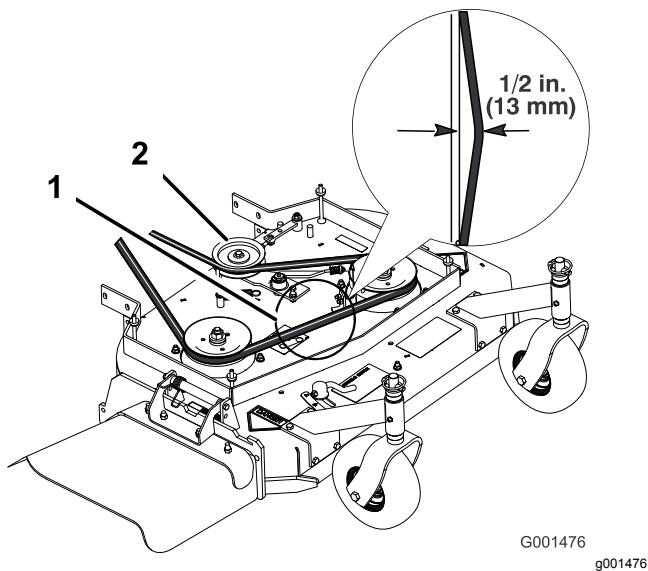
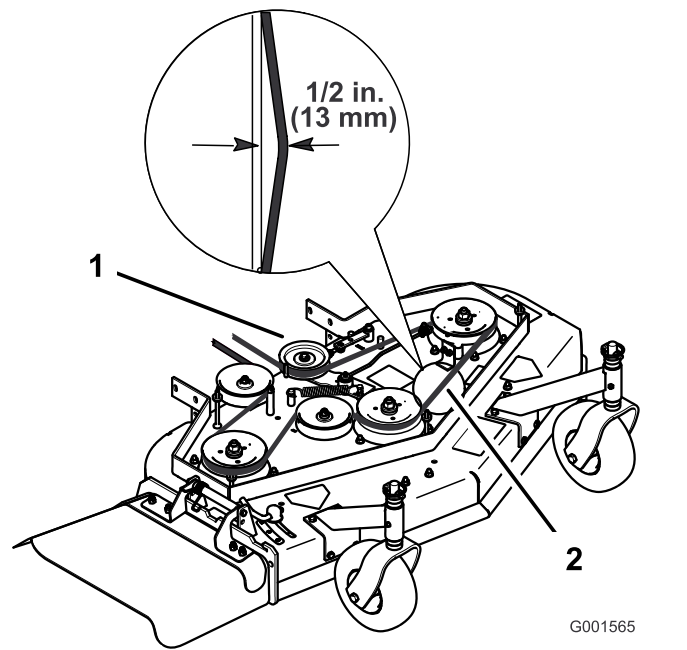

Figure 42
Figure 43
Note: The proper mower belt tension is 44 to 67 N·m (10 to 15 ft-lb) with the belt deflected 13 mm (1/2 inch) halfway between the pulleys (Figure 42 or Figure 43).
3. Loosen the locknut on the turnbuckle (Figure 42).
- Rotate the turnbuckle toward the front of the machine to decrease the tension on the belt (Figure 42).
Note: The proper mower belt tension is 44 to 67 N·m (10 to 15 ft·lb) with the belt deflected 13 mm (1/2 inch) halfway between the pulleys (Figure 42).
- Rotate the turnbuckle toward the front of the machine to decrease the tension on the belt (Figure 43).
Note: The proper mower belt tension is 44 to 67 N·m (10 to 15 ft-lb) with the belt deflected 13 mm (1/2 inch) halfway between the pulleys (Figure 43).